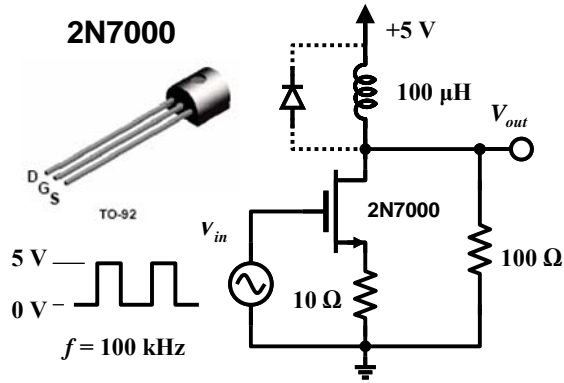
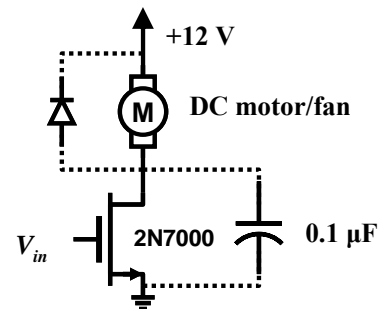

Figure 4-8 – Circuit for demonstrating inductive spiking and the use of diode clamps.
Figure 4-9 – Driver for simple DC motor.
Inductive loads can also lead to significant voltage spikes in some switching circuits. Consider the MOSFET circuit shown in Figure 4-8. Here the inductor has replaced the drain resistor, so to limit the current that flows in the transistor in the “on” state, we are using a
- Build the circuit in Figure 4-8 using your 2N7000. Leave out the diode clamp in this first step. Adjust the frequency of the input signal to 100kHz, and record your waveforms.
Often the inductance is not an intentional part of the circuit but rather a consequence of the kind of load that is being switched on and off. Motors and relays are examples of devices that are inductive. The simple motor-driver circuit shown in Figure 4-9 is thus potentially similar in behavior to the inductive circuit we just built in Figure 4-8.
- Build the circuit in Figure 4-9. Note the +12V supply. You can insert jumper wires into the little connector on the fan leads to hook up to your protoboard. You will not need the diode clamp here, and leave out the capacitor for now. Apply a +5V DC bias to the gate to turn on the fan.
We mentioned that the voltage spikes observed in the circuit of Figure 4-8 may in fact be desirable in some cases. One example is the DC-DC boost converter, which is a circuit that can create large DC voltage